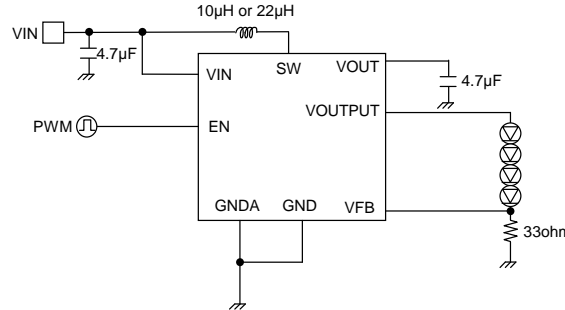

Figure 23. The brightness adjustment example of EN terminal by PWM (fPWM = 100 to 300Hz)
1. PWM brightness adjustment is done by giving PWM signal to EN as shown in Figure 23.